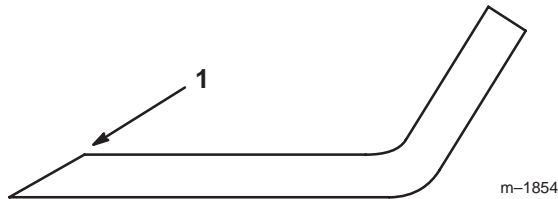

Figure 27
1. Use a file to sharpen the cutting edge at both ends of the blade at the original angle (Fig. 27).